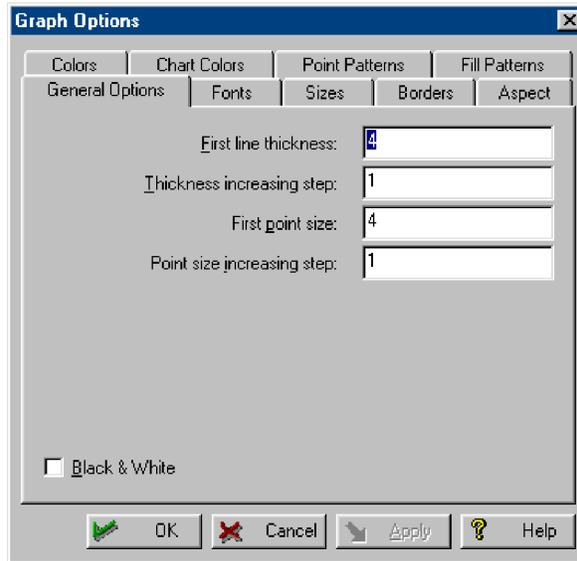

Figure 8.13 *Graph Options dialog box: General tab*
- 2 In the **Graph Options** dialog box, click the **General** tab (Figure 8.13).